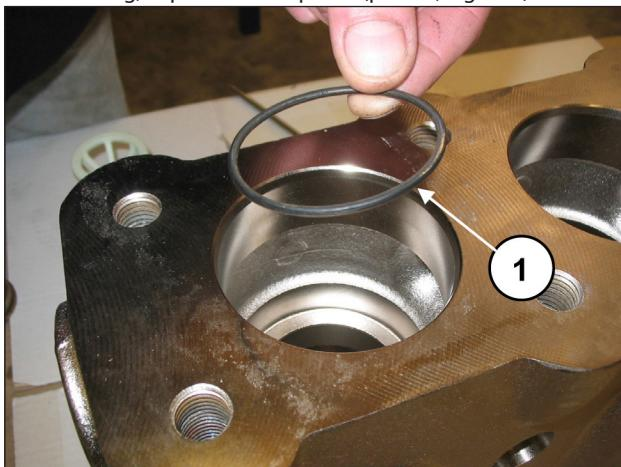

Fig. 114
Fit the O-ring, exploded view pos. 6 (pos. ①, Fig. 114).